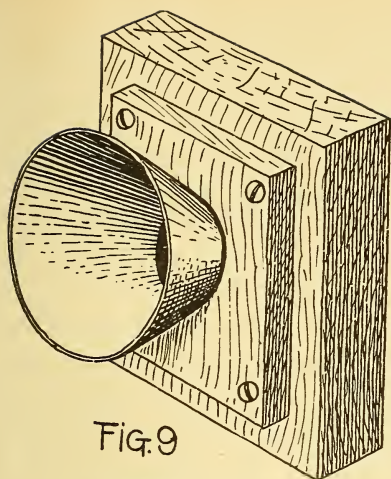

FIG. 9
Following the invention of the receiver, several transmitters were designed and patented, among them being the Edison, Blake, Clamond, Western Union, and Hunning. The Edison and Hunning are the ones in general use, and as either of them can easily be made by a boy a simplified type of both is shown in Figs. 9 and 11.
Some small blocks of wood, tin funnels, small screws, granulated or powdered carbon, some thin pieces of flat carbon, and a piece of very thin ferrotype plate will be the principal things needed in making a transmitter similar to the one shown in Fig. 9. All that is visible from the outside is a plate of wood screwed to a block of wood, and a mouth-piece made fast to the thin board.
A small tin funnel is cut and made fast to the face-plate (B), or if an electrical supply-house is at hand a mouth-piece of hard rubber or composition may be had for a few cents. The block (B) is then screwed fast to A, forming the transmitter shown at Fig. 9. When this transmitter stands in a vertical position the granules, or small particles of carbon, drop down between the buttons of carbon, packing closely at the bottom of the cavity. At the middle they are loosely placed, and at the top there are none. As the high or low vibrations of the voice fall on the disk (D) they act accordingly on the carbon granules, which in turn conduct the vibrations to the rear carbon button, and, by the aid of electricity reproduce the same sound, in high or low tone, through the receiver at the other end of a line.